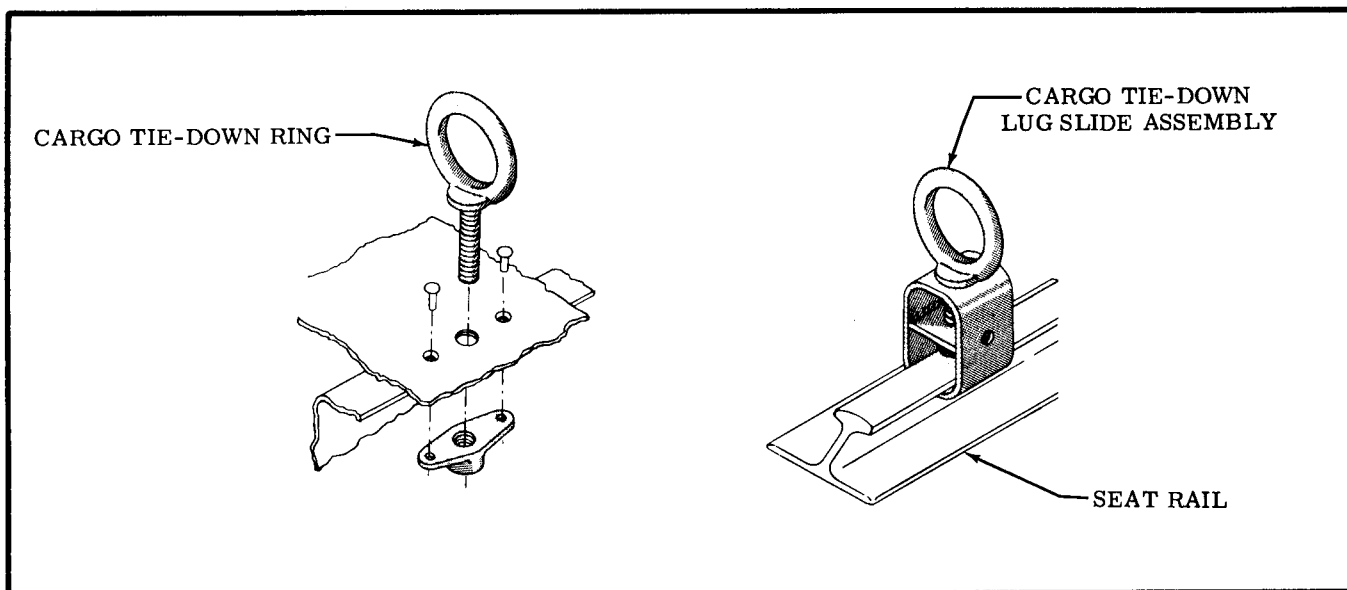

Figure 3-9. Cargo Tie-Down Rings
**3-52. CARGO TIE-DOWNS.** Cargo tie-downs are used to ensure baggage cannot enter seating area during flight. Methods of attaching tie-downs are illustrated in figure 3-9. The eyebolt and nutplate can be located at various points. The sliding tie-down lug also utilizes eyebolt and attaches to a seat rail.